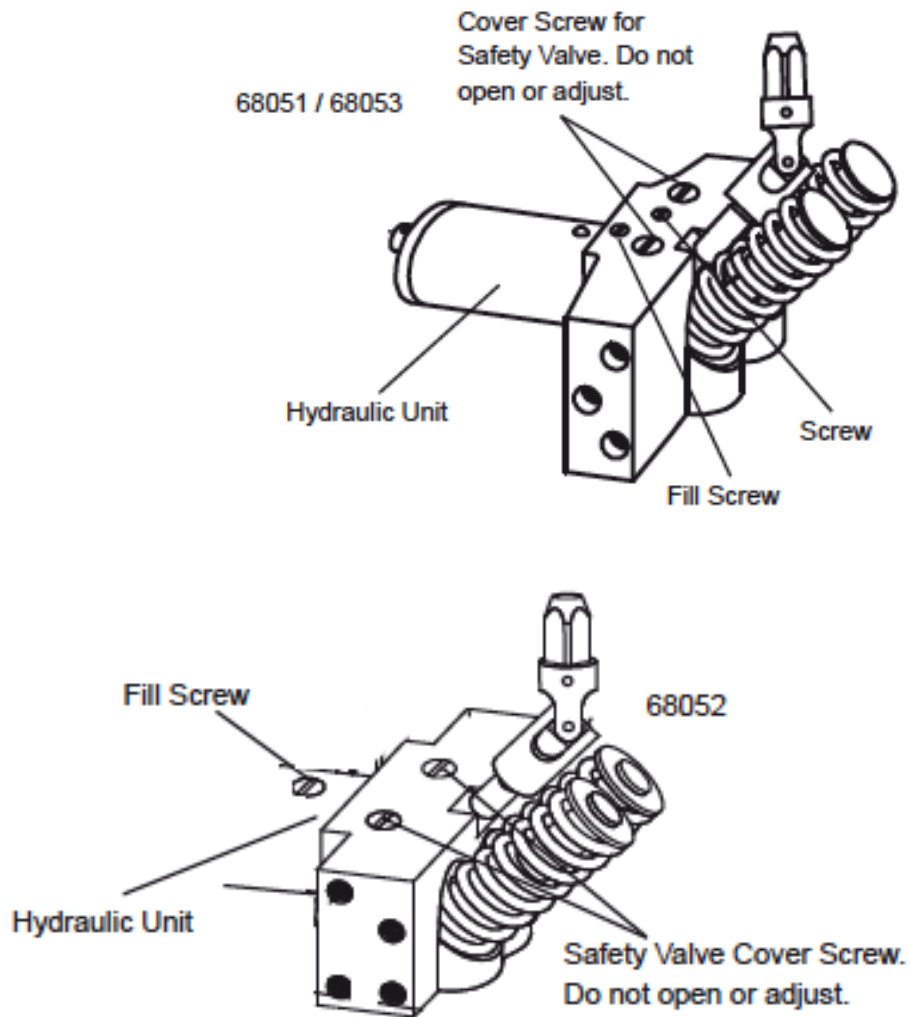

Fig. 1
1. Loosen the Fill Screw (Fig. 1).
5. Tighten the Fill Screw (Fig. 1).
1. Remove Fill Screw and Screw simultaneously (Fig.1).
3. Carefully position the Saddle of the Jack (Fig. 1) under the vehicle manufacturer's recommended lifting point. (See vehicle manufacturer's owner's manual for location of frame lifting point when lifting only one wheel and frame lifting points when lifting the entire front or rear end of the vehicle.)